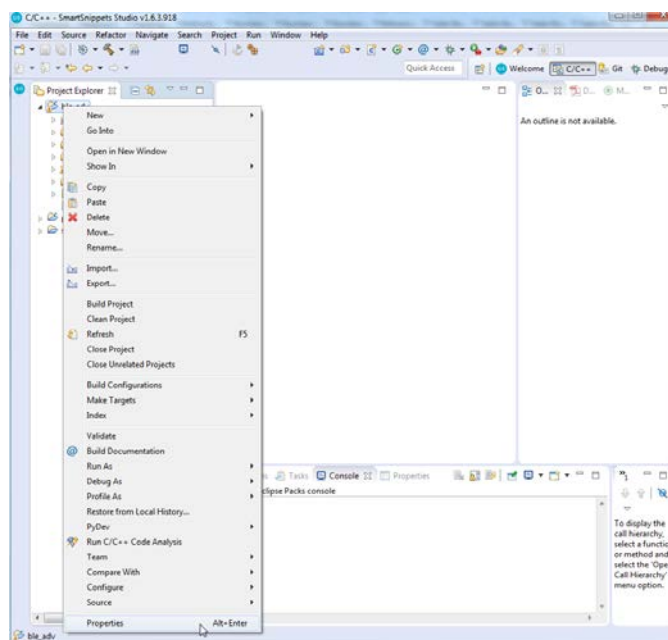

Figure 4: Edit project properties
4. Open the project **Properties** to edit the new configuration with a right click on the application project (Figure 4).